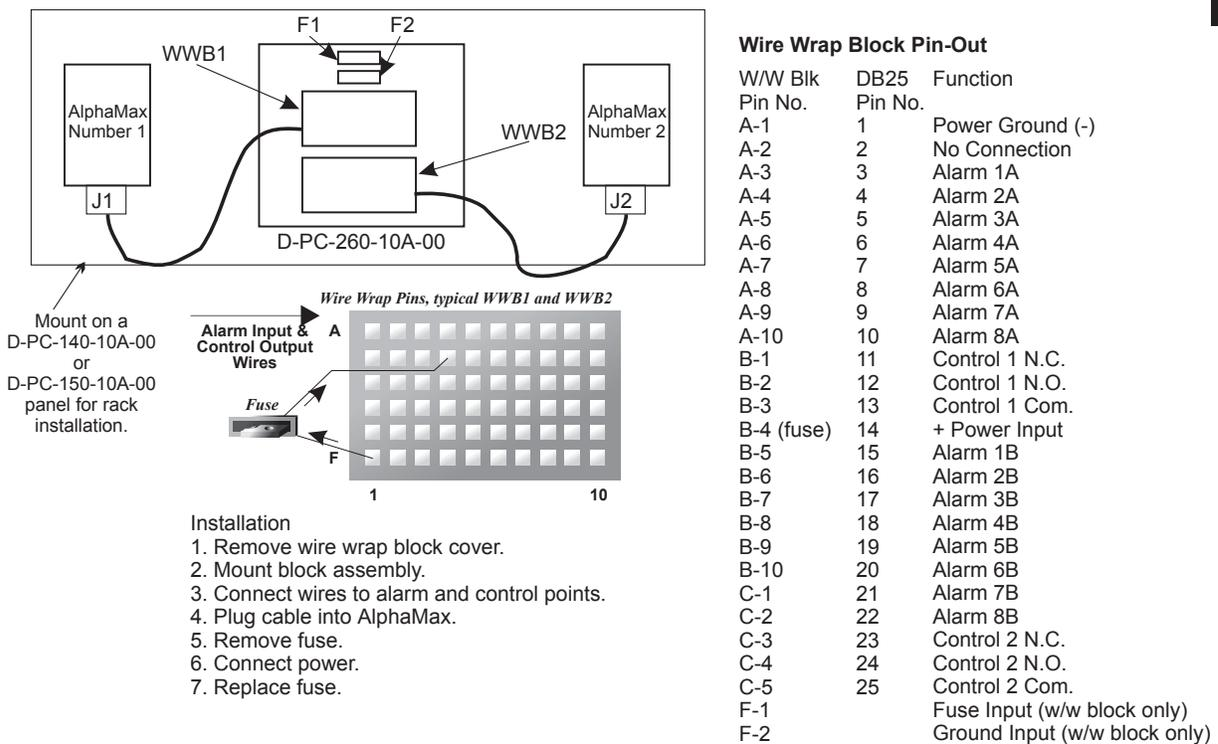

Fig. 8 - Wire Wrap Block Supports One or Two AlphaMax 82As.
8. Connect all alarm and control points at the wire wrap block. (Fig. 8)
Example: (see Fig. 8) To operate alarm point 5, wire wrap block pin A-7 (Alarm 5A) connects to one terminal of a (normally-open) switch or relay contact. Wire wrap block pin B-9 (Alarm 5B) connects to the other terminal. When the switch or relay contact closes, current flows in the circuit and an alarm is sensed.
Example: (see Fig. 8) Switched ground: To operate alarm point 5, wire wrap block pin A-7 (Alarm 5A) connects to one terminal of a (normally-open) switch or relay contact. The other terminal connects to negative ground. Wire wrap block pin B-9 (Alarm 5B) connects to positive battery. When the switch or relay contact closes, current flows in the circuit and an alarm is sensed.